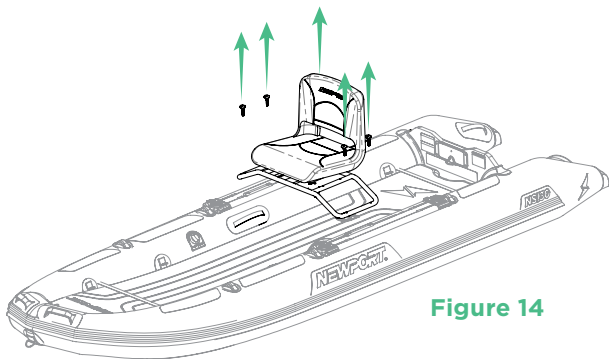

Figure 14
- Unthread the SEAT FRAME KNOBS and take off the SEAT FRAME (Figure 14)